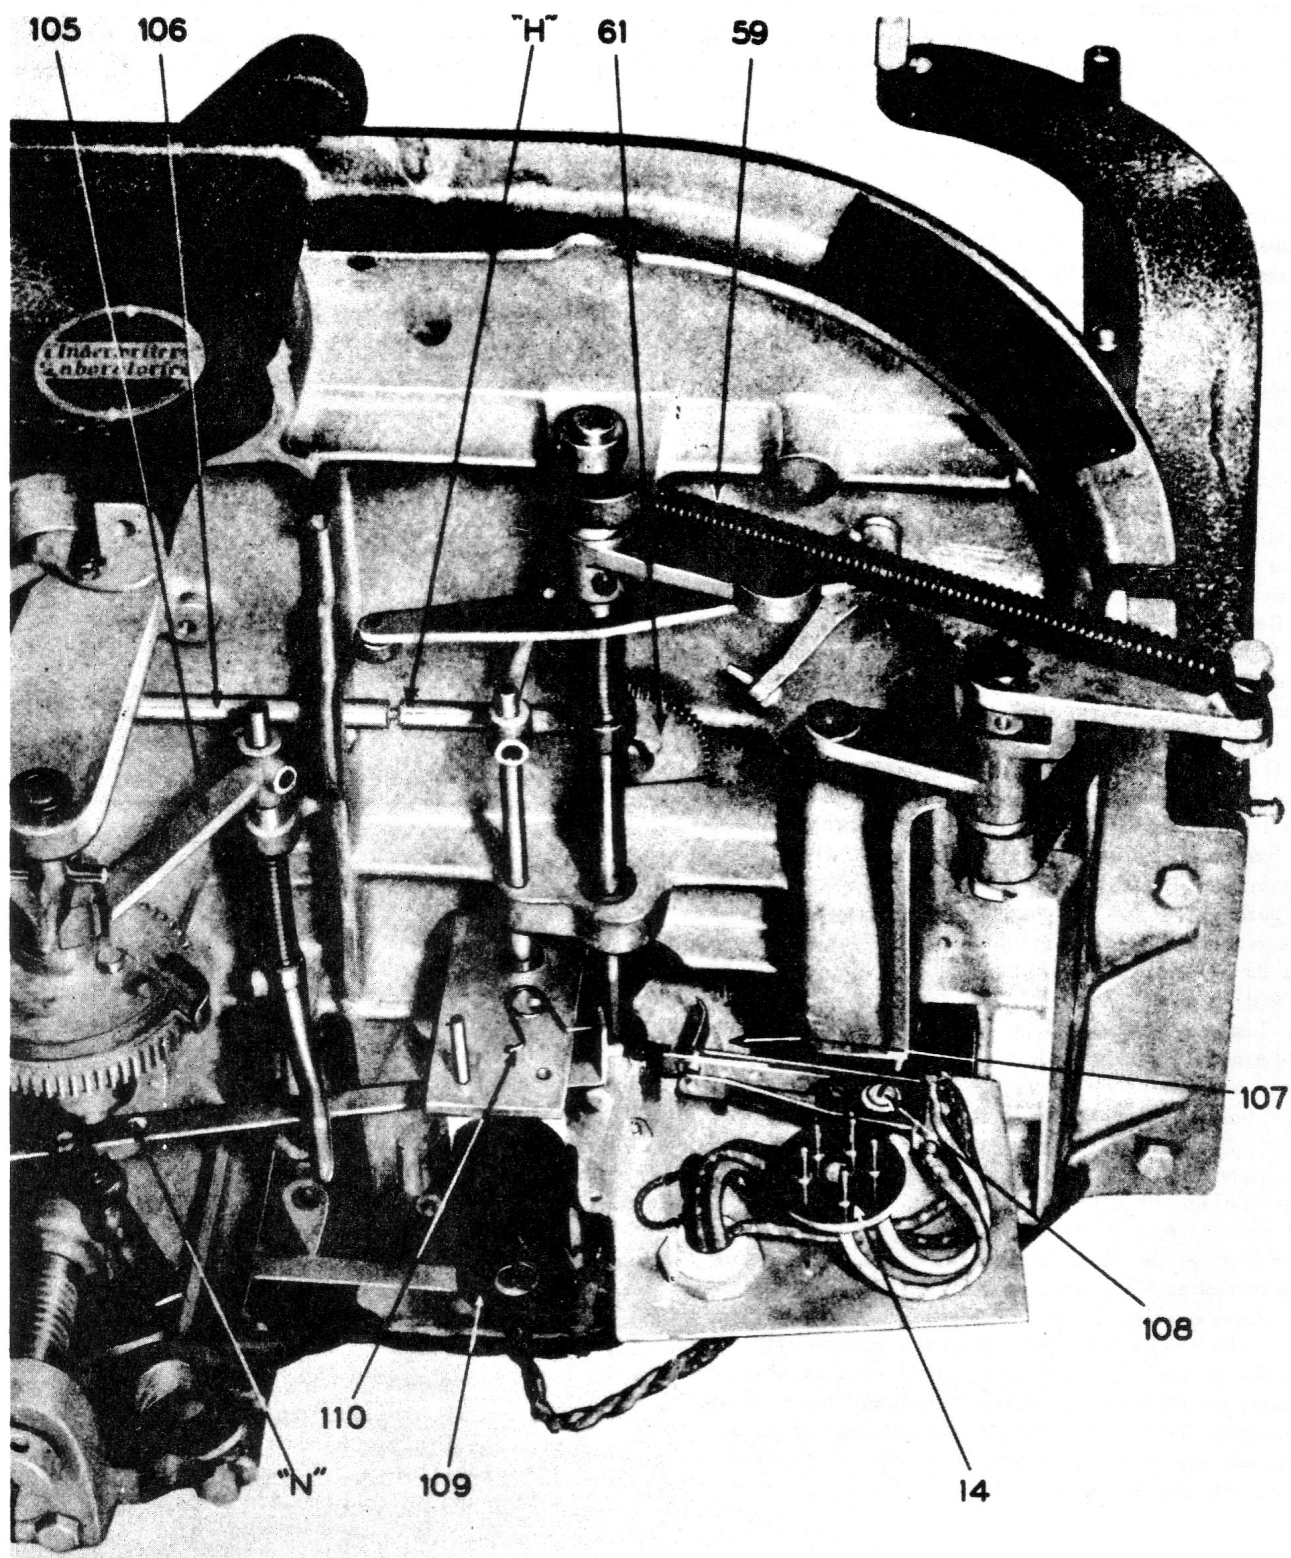

Fig. 6
The clearance between the driven (70) (Fig. 5) and driving (99) (Fig. 5) members of the clutch should be approximately .020" (Twenty thousandths), and is adjusted by loosening screw "N" Fig. 7 to a sliding tension and adjusting the clutch fork (121) (Fig. 7) and the solenoid to clutch lever and pin assembly until the proper clearance is obtained. After adjustment is made lock the screw "N," Fig. 6.